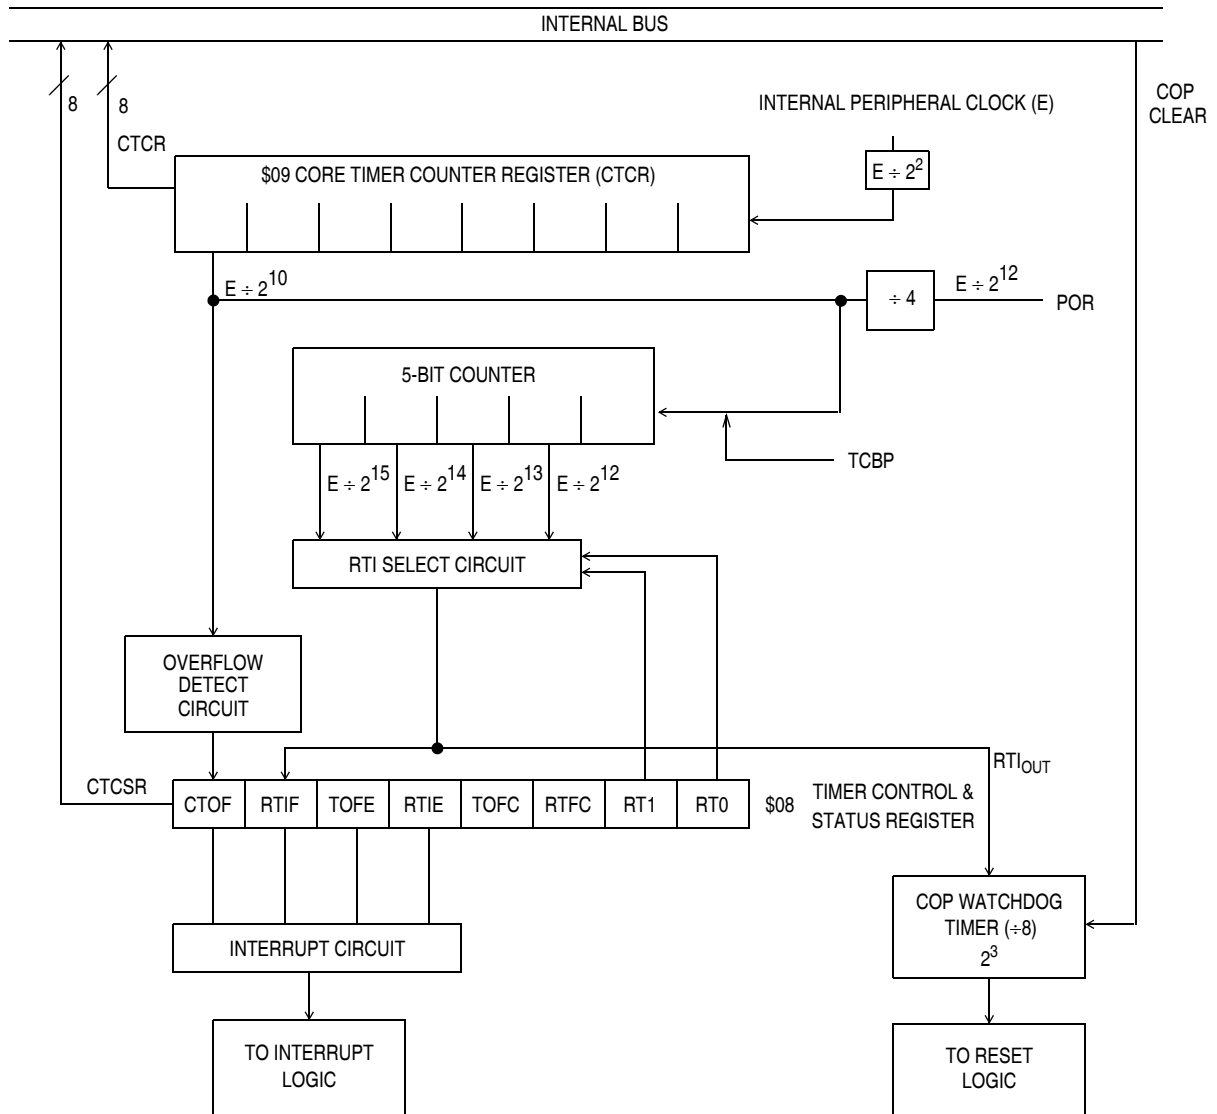

Figure 8-1. Core Timer Block Diagram
As seen in **Figure 8-1**, the internal peripheral clock is divided by four and then drives an 8-bit ripple counter. The value of this 8-bit ripple counter can be read by the CPU at any time by accessing the core timer counter register (CTCR) at address \$09. A timer overflow function is implemented on the last stage of this counter, giving a possible interrupt rate of the internal peripheral clock (E)/1024. This point is then followed by three more stages, with the resulting clock (E/4096) driving the real-time interrupt circuit (RTI). The RTI circuit consists of three divider stages with a one-of-four selector. The output of the RTI circuit is further divided by eight to drive the mask optional COP watchdog timer circuit. The RTI rate selector bits and the RTI and CTOF enable bits and flags are located in the timer control and status register at location \$08.
The COP watchdog timer function is implemented on this device by using the output of the RTI circuit and further dividing it by eight. The minimum COP reset rates are listed in Figure 8-1. If the COP circuit times out, an internal reset is generated and the normal reset vector is fetched. Preventing a COP timeout, or clearing the COP is accomplished by writing a zero to bit 0 of address \$3FF0. When the COP is cleared, only the final divide-by-eight stage (output of the RTI) is cleared.